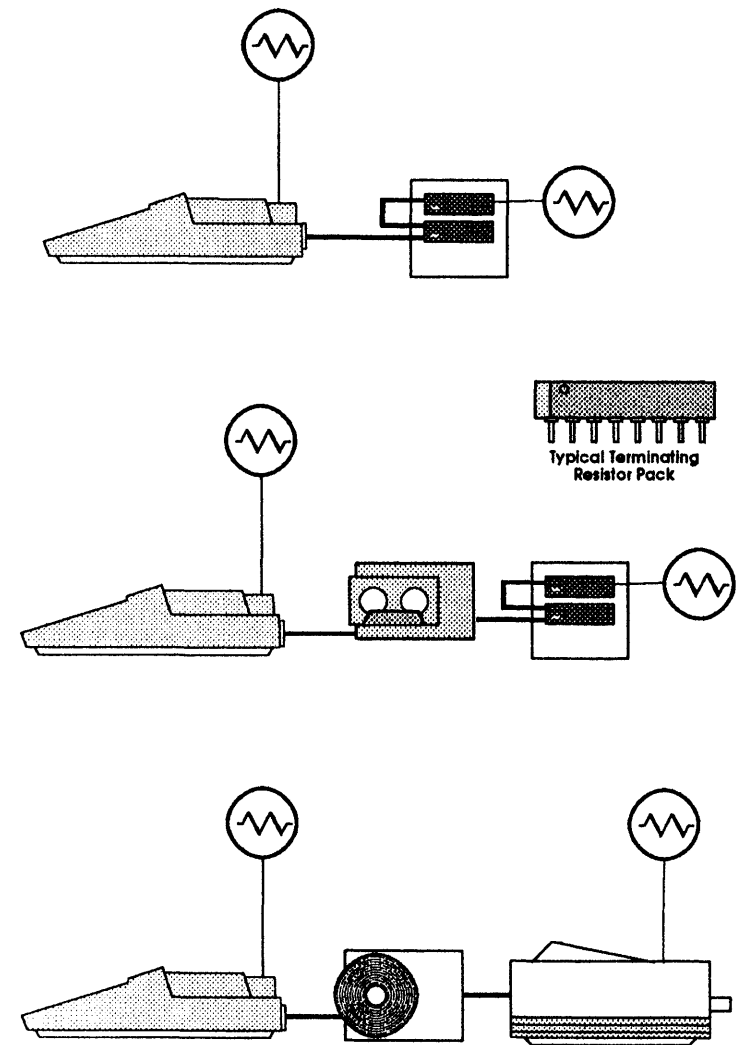

Figure 5.12 - SCSI bus connections and termination.
**NOTE:** The A530's SCSI controller, itself, provides termination for the head end of the bus. If several devices are attached to the external 25-pin connector, only the last device on the bus should be terminated (see Figure 5.12).